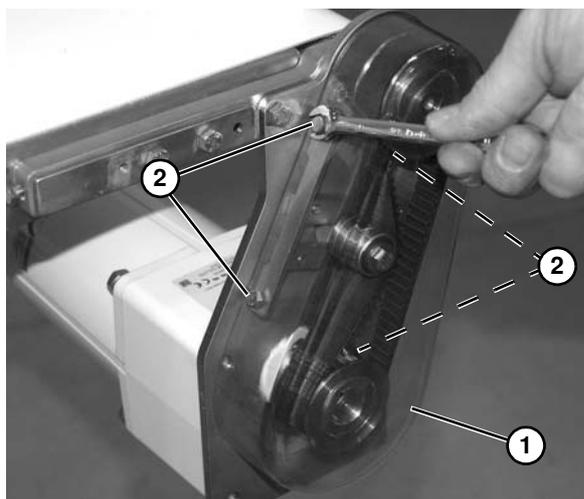

**Figure 72**
*Do not overtension chain (Figure 72, item 3). Only tension chain until slack is removed.*
- b. Slide chain tensioner (Figure 72, item 1) to take up chain slack. Tighten chain tensioner screw (Figure 72, item 2).